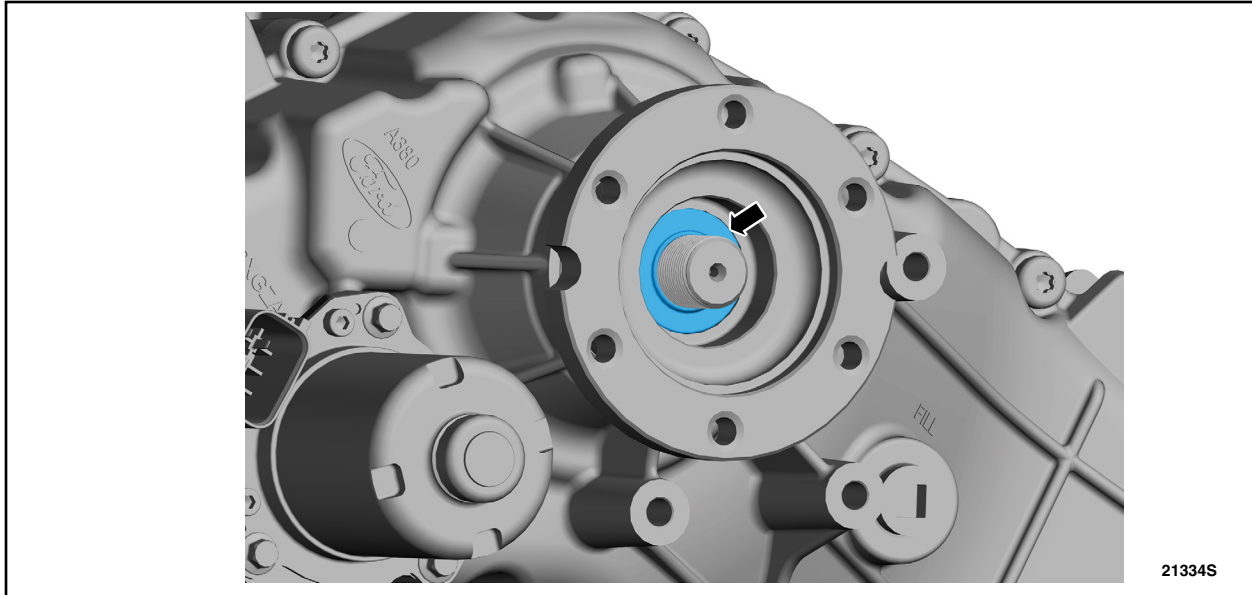

FIGURE 18
29. Install the output flange seal. See Figure 18.